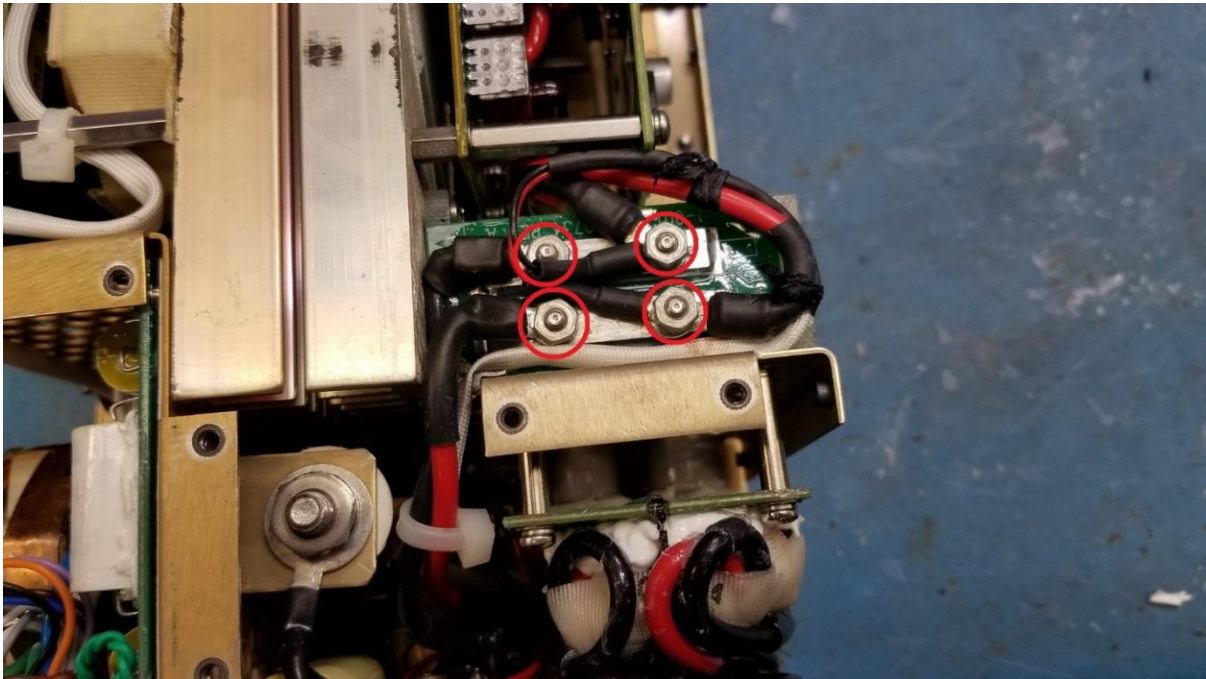

Figure 20
42. Connect (4) lugs by attaching (4) nuts (35649-245T), (4) washers (15795-803), (4) washers (35338-135) and shrink tubing (M23053/5). (Figure 20).